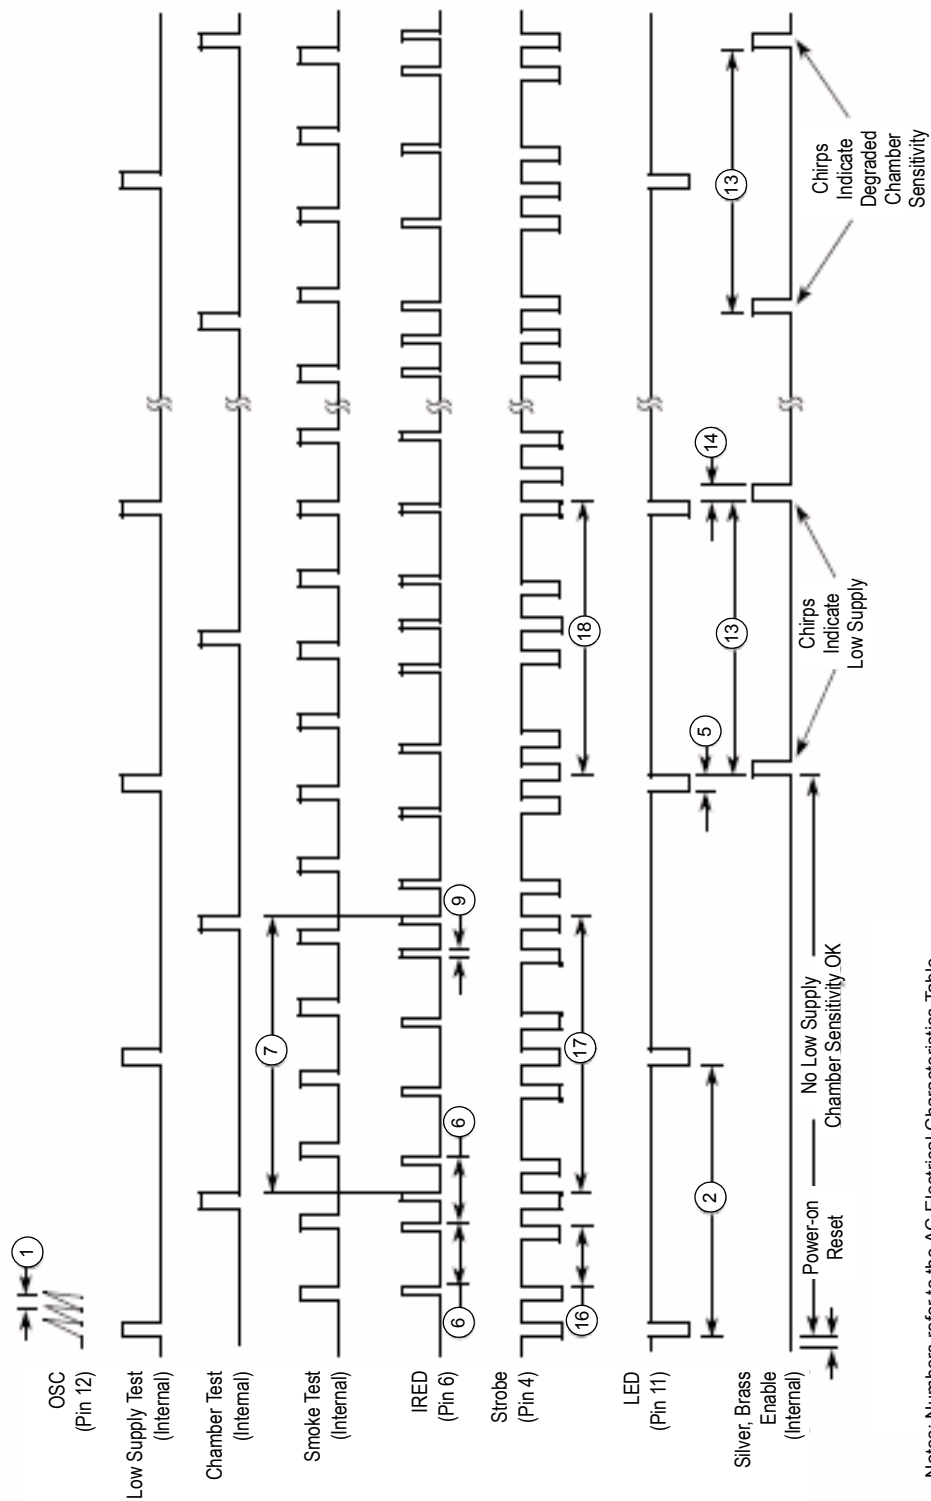
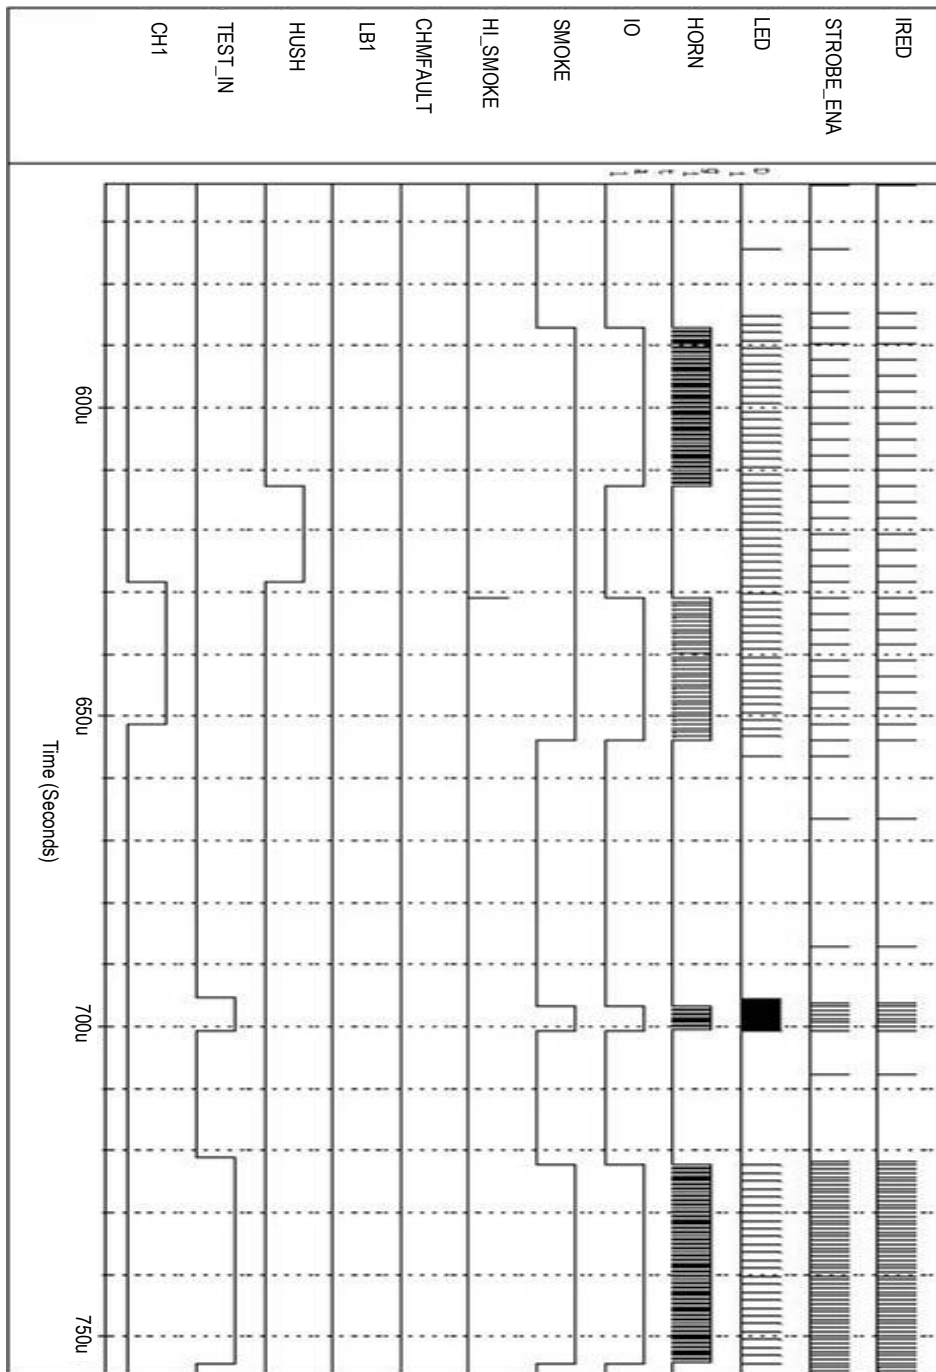
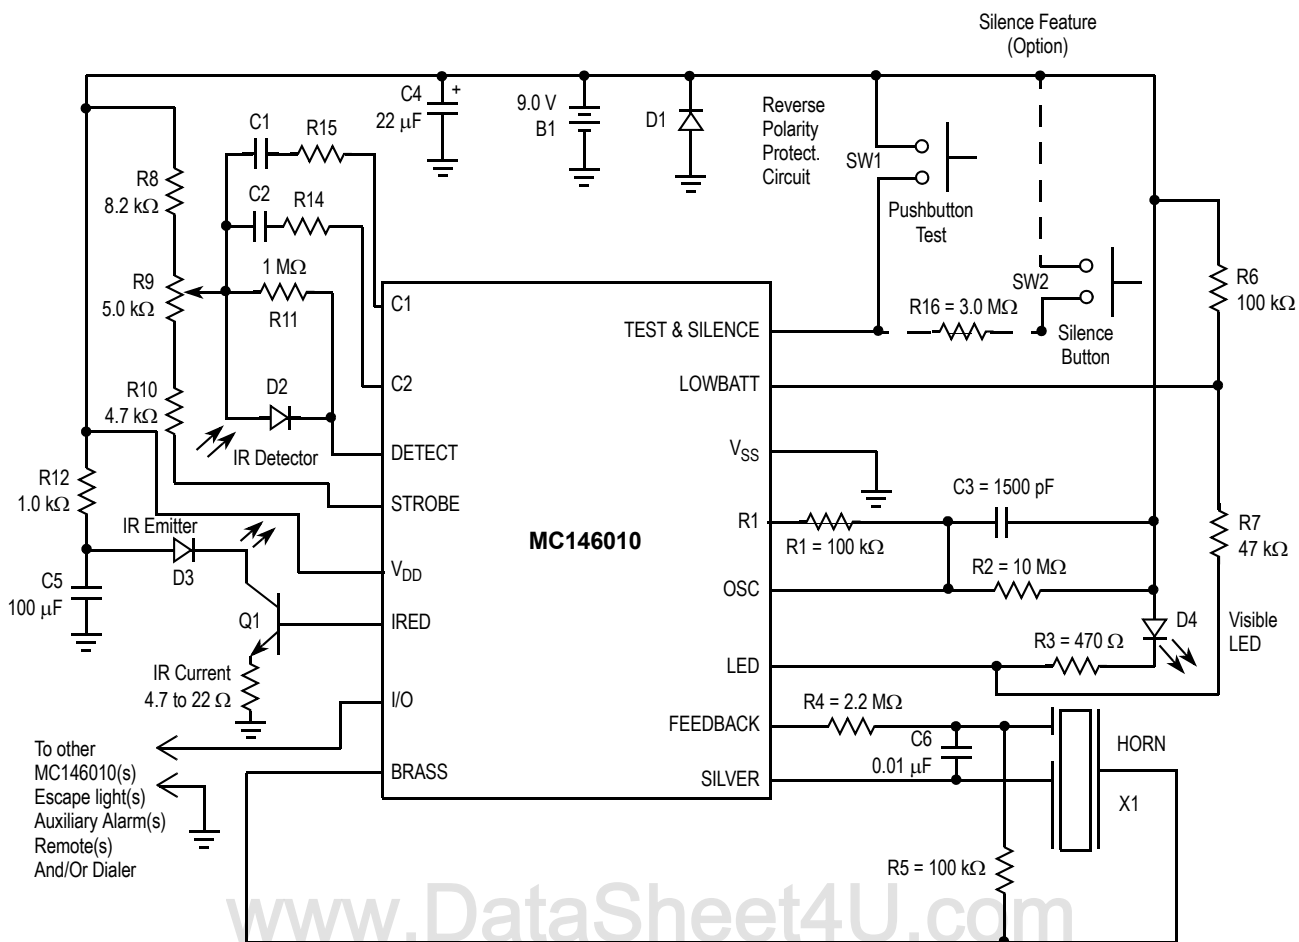

Figure 3. Typical Standby Timing Diagram MC146010 Device
Figure 4. Typical Local Smoke Timing MC146010 Device
Figure 5. Typical Battery Powered Application
* $T_A = 25^\circ\text{C}$ Only**Table 3. AC Electrical Characteristics** (Refer to Timing Diagram Figure 3 and Figure 4. $T_A = 25^\circ\text{C}$, $V_{DD} = 9.0\text{ V}$, Component Values from Figure 5.)
Table 3. AC Electrical Characteristics (Refer to Timing Diagram Figure 3 and Figure 4. $T_A = 25^\circ\text{C}$, $V_{DD} = 9.0\text{ V}$, Component Values from Figure 5.) (continued)
A capacitor connected to this pin as shown in Figure 5 determines the gain of the on-chip photo amplifier during pushbutton test and chamber sensitivity test (high gain). The capacitor value is chosen such that the alarm tripped from background reflections in the chamber during pushbutton test.
A capacitor connected to this pin as shown in Figure 5 determines the gain of the on-chip photo amplifier during pushbutton test and chamber sensitivity tests.
The Detect input must be ac/dc decoupled from all other signals, V_{DD} and V_{SS} . Lead length and/or foil traces to this pin must be minimized also. See Figure 3.
The LED also provides a visual indication of the detector status as follows, assuming the component values shown in Figure 4:
In the Calibration mode, the IRED pulse rate is increased. An IRED pulse occurs every clock cycle. Also, Strobe is always Active Low. It is recommended to short R12 (Figure 5) in this mode. This will allow for a similar recovery of the emitter circuitry as in normal operation. Pin 1, pin 2, and pin 12 should be buffered with a unity gain amplifier to measure their outputs.